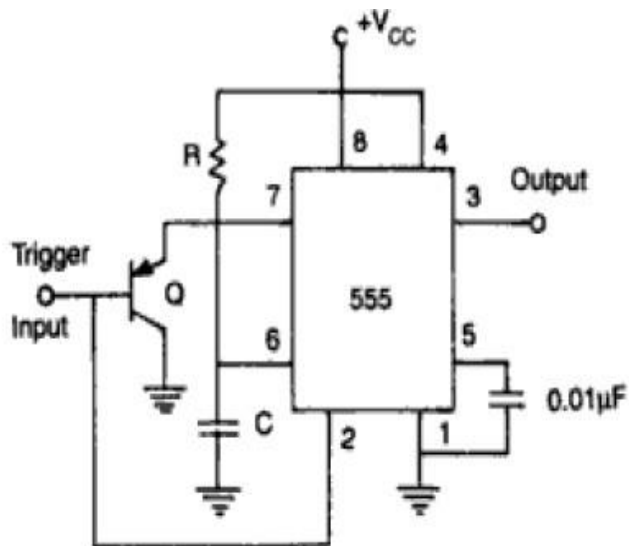

Fig. 8.8 A missing pulse detector monostable circuit
- Missing pulse detector circuit using 555 timer is shown in Figure 8.8.